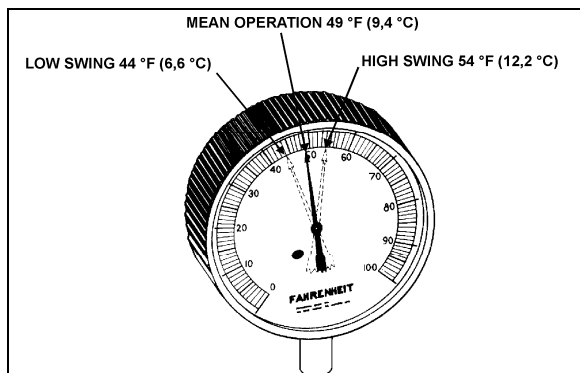

FIGURE 35: HIGH & LOW SWING TEMPERATURE AT REMOTE BULB 22047
6. Check approximately 5 readings of pressure at 2-minute intervals and convert to temperature using the vapor-pressure table (page 37). Likewise check the temperature reading at the remote bulb at the same 2-minute intervals and record the low and high swing readings of the needle (refer to figure 35).